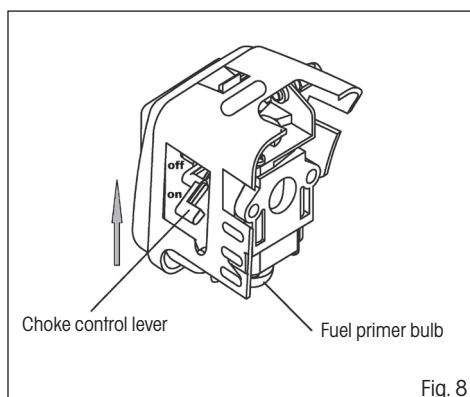

Fig. 8
2. Repeatedly push down the fuel primer bulb (5 to 10 presses), until the fuel gets to the carburetor. (see fig. 8)
3. Move the choke lever upwards to the "OFF" position (=air supply turned off, i.e. choke turned on). (see fig. 8)